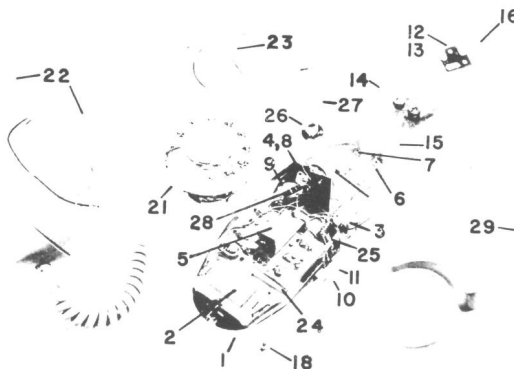

FIGURE 1. COMPONENT PARTS - EXPLODED VIEW
- 2.01 The exploded view of Figure 1 shows all the component parts and sub-assemblies of the 700 basic instrument.
- 3.01 a. Loosen the lockwasher screws (18 of Figure 1) and remove the housing (29 of Figure 1).
- b. Loosen the clamping screws, lift out the dial (21), if fitted, and disconnect the leads.
- c. Disconnect the leads and remove the handset and cord assembly (22).
- d. Disconnect the leads and remove the desk stand cord (23).
- e. Remove the lamp (27) and socket assembly (26).
- f. Remove spring (25) and cradle switch bracket assembly (24).